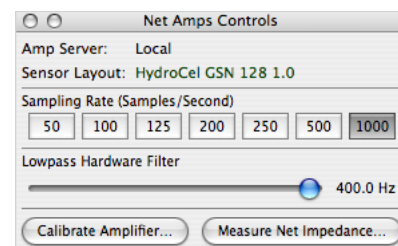

Figure D-11. Measure Net Impedance button
- 1 Click the Measure Net Impedance button on the Net Amps Controls panel (Figure D-11), or choose **Panels > Impedance** and click the Measure button on the Impedance panel.